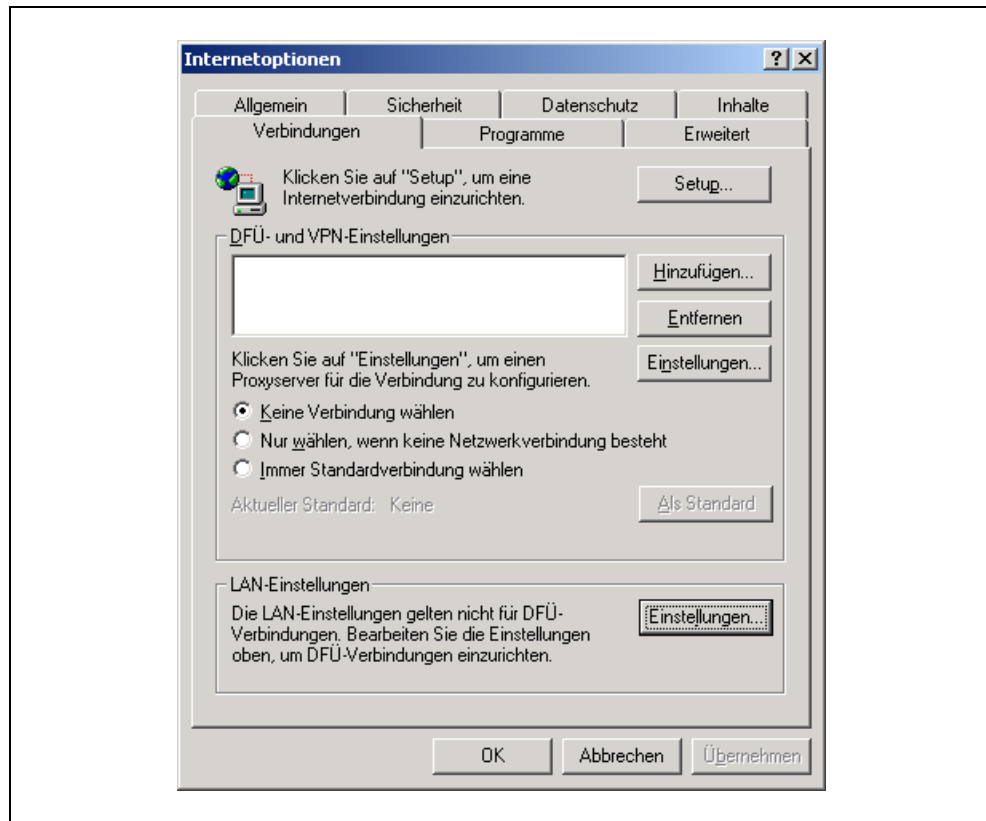

Figure 6-20 Microsoft Internet Explorer 6.0 – Connections Window
4. If you use a proxy server that only accepts DNS registered IP addresses and your ELS is not DNS registered, you may need to connect directly to the ELS. To do this, select **Tools -> Internet Options -> Connections**. The dialog shown in Figure 6-20 opens.